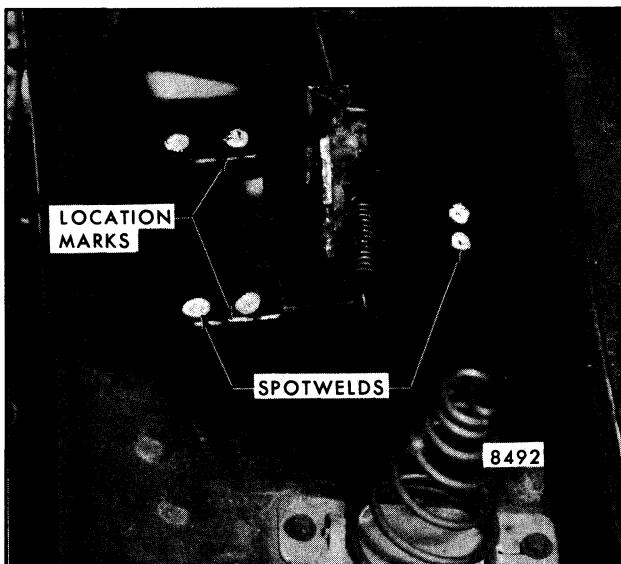

Fig. 4-21-Hood Latch Assembly - "H-11, 15 and 77"
The hood latch assembly on "H" body styles (less "H-07,27") is mounted to the underside of the shroud upper panel with six spot welds (Fig. 4-21). The latch is therefore not adjustable.
2. Scribe position of right and left side of latch onto shroud upper panel, as shown in Figure 4-21 to provide proper location for replacement latch assembly.